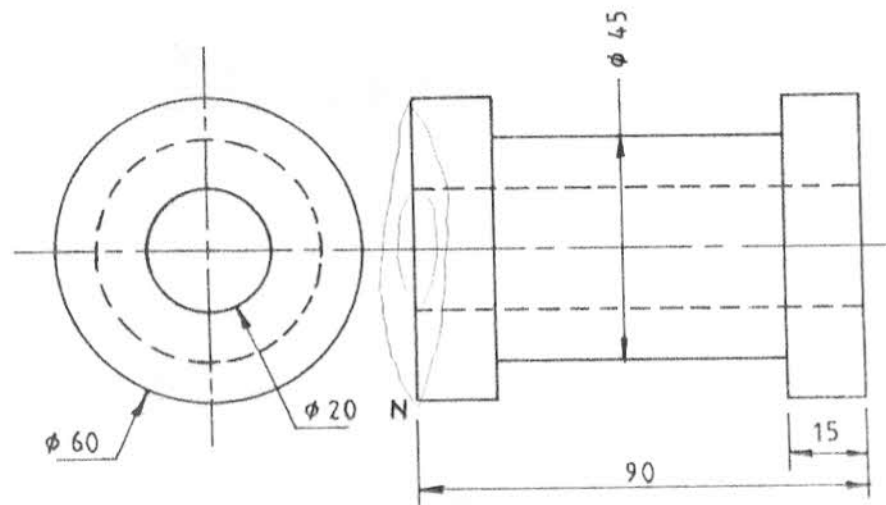

Fig. 3
- (b) Figure 3 shows two views of an object. Draw an oblique cabinet pictorial view taking corner N as the lowest point. (10 marks)